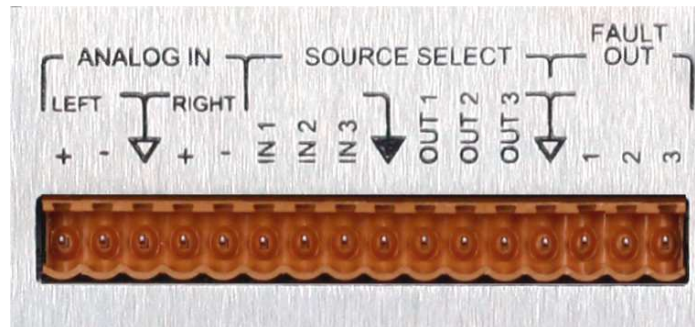

Figure 3. Audio and Monitoring/Control connections
- **Source Select In:** In Manual Mode, a positive pulse on any of these inputs will select the corresponding source (1, 2 or 3). The Source Select In inputs are EIA compatible and opto-isolated. (-12 to 0.8 V = Low, 2.4 to +12 V = High). An internal pull-up can be put in circuit with a jumper for dry contact operation. The ground can be set to internal or external (isolated). The inputs are detailed in Figure 3.